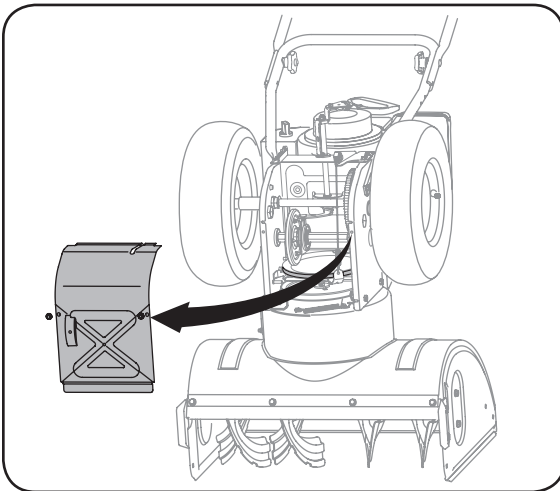

Figure 6-5
1. With the snow thrower tipped forward (be certain to drain gasoline or place plastic film under the gas cap if the snow thrower has already been operated), remove the frame cover underneath the snow thrower by removing the self-tapping screws. See Figure 6-5 on page 17.
2. Carefully pivot the snow thrower up and forward so that it rests on the auger housing. Remove the frame cover from the underside of the snow thrower by removing four self-tapping screws which secure it. See Figure 6-5.
3. Carefully pivot the snow thrower up and forward so that it rests on the auger housing. See Figure 6-5.
4. Remove the frame cover from the underside of the snow thrower by removing four self-tapping screws which secure it. See Figure 6-5.
2. Carefully pivot the snow thrower up and forward so that it rests on the auger housing. See Figure 6-5.
3. Remove the frame cover from the underside of the snow thrower by removing four self-tapping screws which secure it. See Figure 6-5.